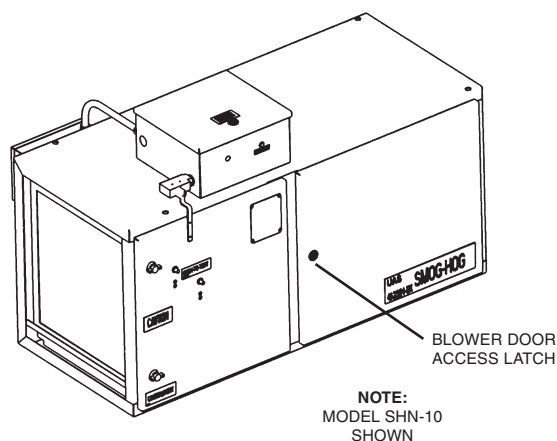

Figure 3
For proper airflow, the blower should be operating in the correct direction. If the blower is operating in the reverse direction, air will move in the proper direction, but at significantly reduced rates. Refer to Figure 3 for access to blower compartment. To check rotation:
M. Access Door (Drive Set). A separate hinged door allows access to motor and blower for easy adjustment (Refer to Figure 3).